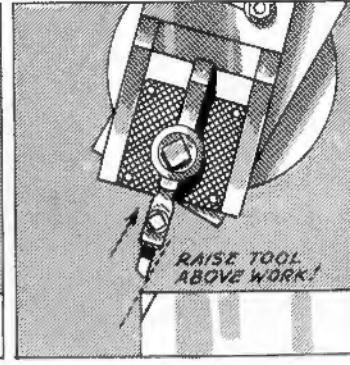

FIG. 418
11. Raise the tool slide and make certain that the tool can be moved the full length of the angular cut (Fig. 418).